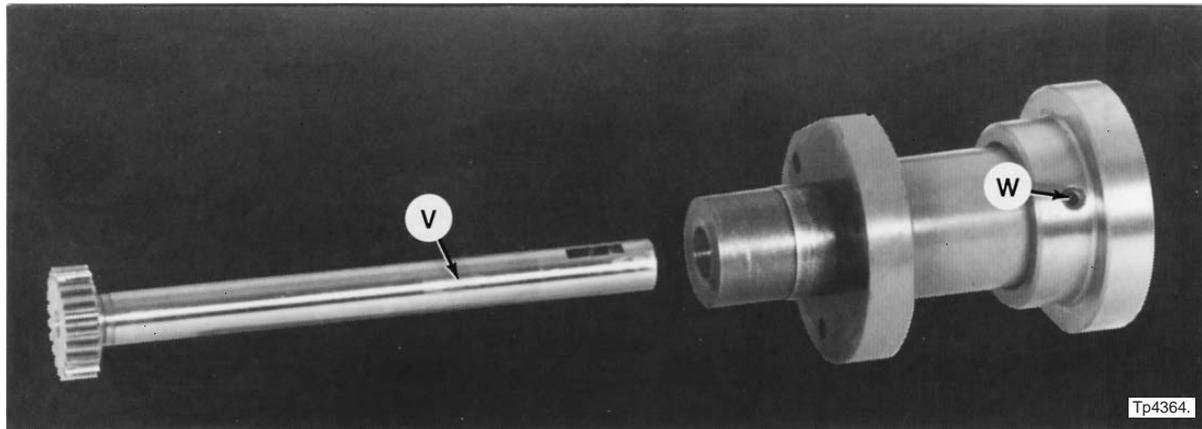

Figure 1.38 - Carriage Handwheel Components
1. Loosen set screw "W", Figure 1.38 .
3. Tighten set screw "W", Figure 1.38 .